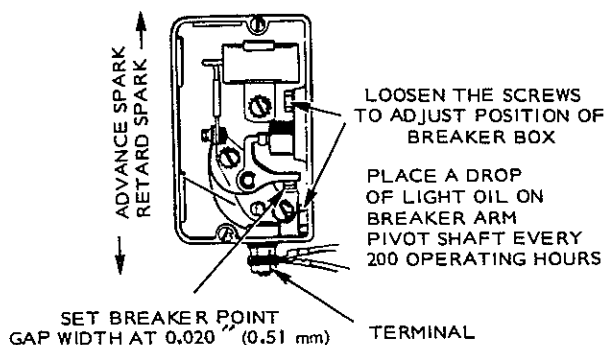

FIGURE 10-15. TIMING MARK AND BREAKER POINTS
Ignition timing is the same for manual-start engines with magneto ignition and remote-start engines with 12 volt battery ignition, Figure 10-15.
2. Crank engine slowly by hand in direction of crankshaft rotation until painted witness mark on flywheel and TC mark on gear cover are exactly in line on the compression stroke, Figure 10-15.